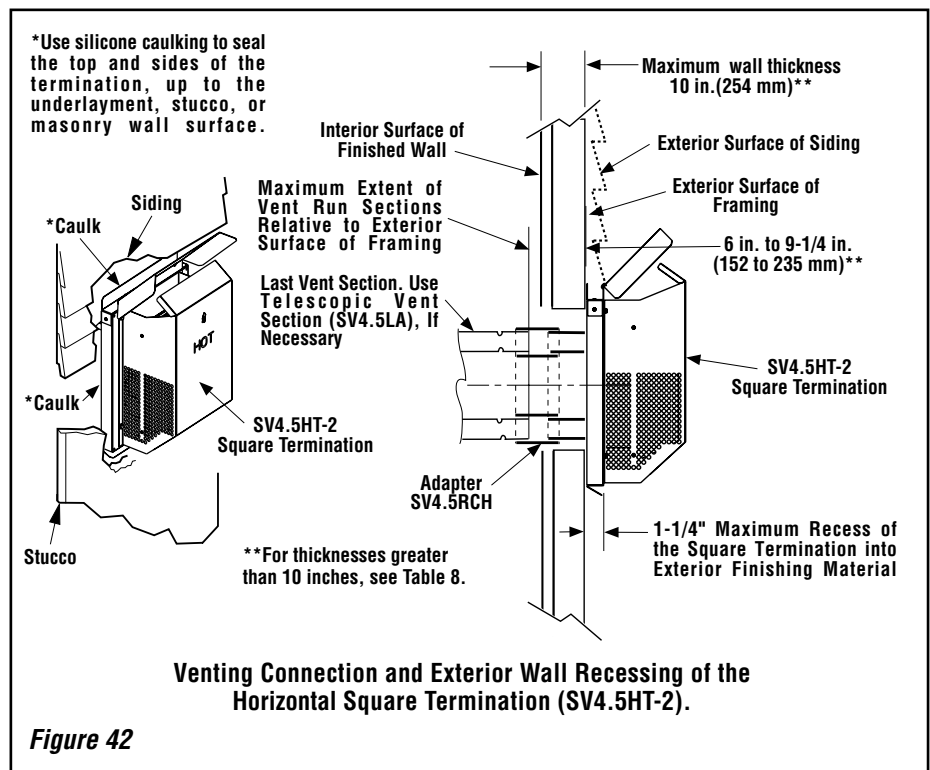

Figure 42
J. Assemble vent run to exterior wall - If not previously measured, locate the center of the vent at the exterior wall. Prepare an opening as described in **Step B**. Assemble the vent system to point where the terminus of the last section is within 7 in. (178 mm) to 11-1/4 in. (286 mm) inboard of the exterior surface to which the SV4.5 HT termination is to be attached, see **Figure 42**. If the terminus of the last section is not within this distance, use the **telescopic vent section SV4.5LA**, as the last vent section. For wall thicknesses greater than that shown in **Figure 42**, refer to **Table 8 on page 23**. This table lists the additional venting components needed (in addition to the termination and adapter) for a particular range of wall thicknesses.
1. Install the square termination (SV4.5HT-2)- For the last step, from outside the exterior wall, slide the collars of the termination onto the adapter (the outer over the outer and the inner inside the inner) until the termination seats against the exterior wall surface to which it will be attached. Orient the housing of the termination with the arrow pointed upwards. Secure the termination to the exterior wall. **The horizontal termination must not be recessed into the exterior wall or siding** by more than the 1-1/4" (32 mm) as shown in **Figure 42**.
Table 8 *Note: See Figure 42 showing wall thickness range when using SV4.5HT-2 termination kit.*